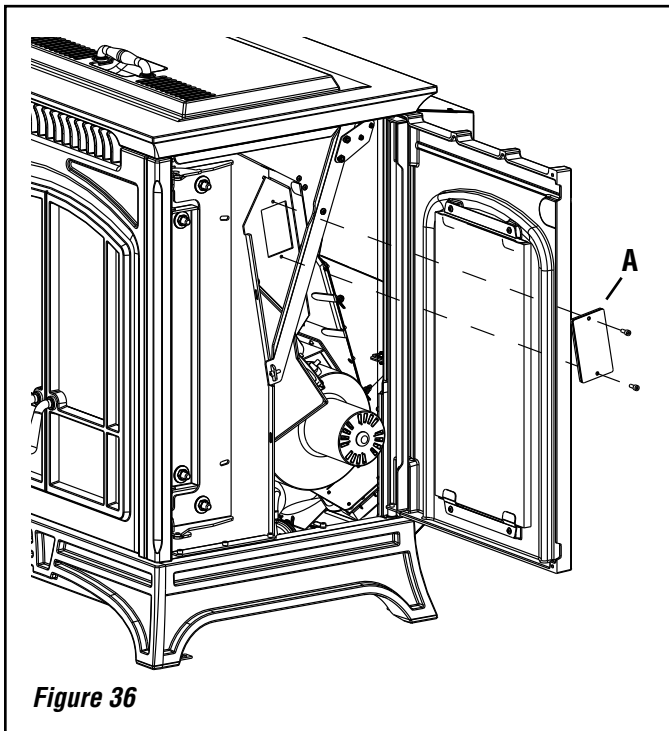
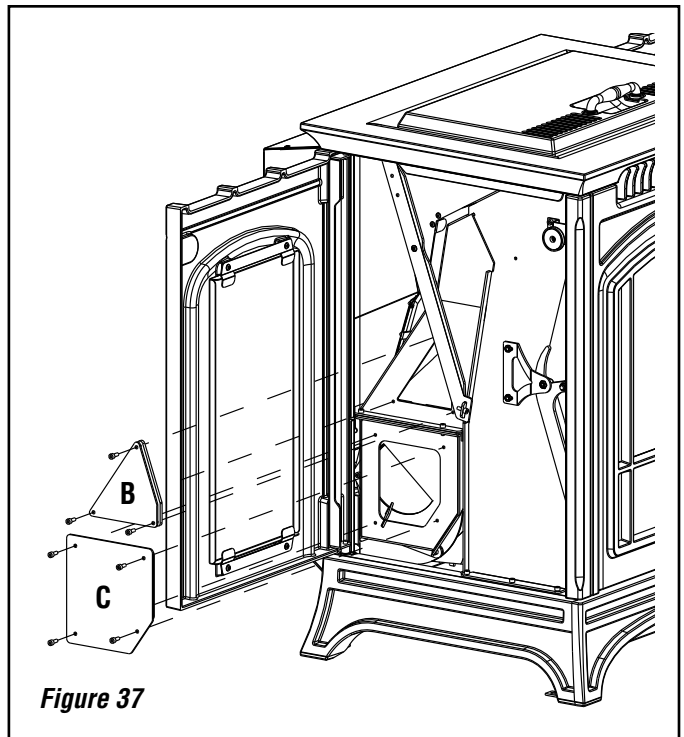
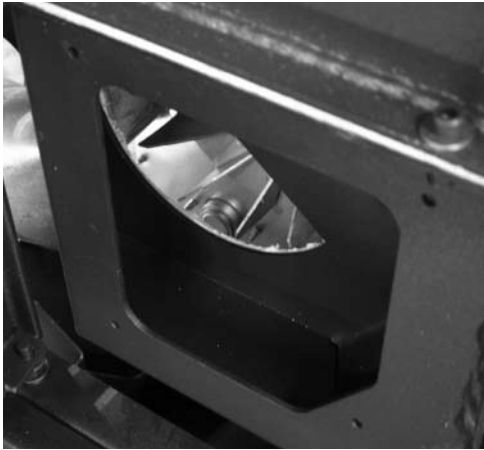

Figure 36
Figure 37
Figure 39
1. Open both the right and left side castings to locate flue clean-out covers (see A in **Figure 36** along with B and C in **Figure 37**).
2. There is one flue clean-out cover on the right side (see A in **Figure 36**) and one lower and upper passageway on the left side (see B and C in **Figure 37**).
To clean the combustion blower, begin by unplugging the stove, opening the left side door and locating the combustion box clean-out cover in the lower left corner of the stove (C in **Figure 37**). Using a 5/32" allen wrench remove the four screws securing the cover. Once the cover is off, gently brush off the blades as well as the Proof of Fire switch (the small circular object just behind the blades near the bottom. **Figure 39**) and vacuum out all loose ash. When clean, inspect the silicone foam gasket on the cover for damage, replace if necessary and reinstall the cover being sure to tighten the bolts down evenly.